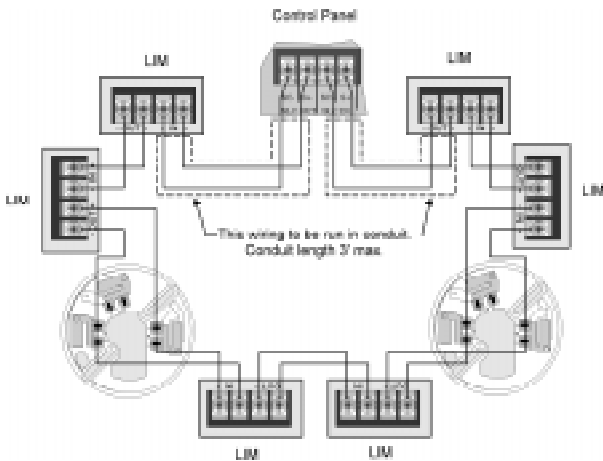
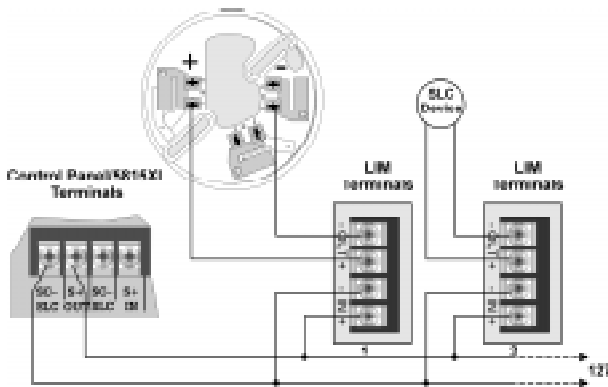

Figure 3: LIM Style 7 (Class A) Wiring for SLC loop
Figure 4: LIM Style 4 (Class B) Wiring for SLC Loop
The SD500-LIM connections for the SLC loop internal and external are the same. Wire as shown in Figure 3 or Figure 4. Notice that “Out Terminals” wire to “In Terminals”.
1. Make sure that the SD500-LIM is properly wired to the control panel. See Figure 3 or Figure 4.